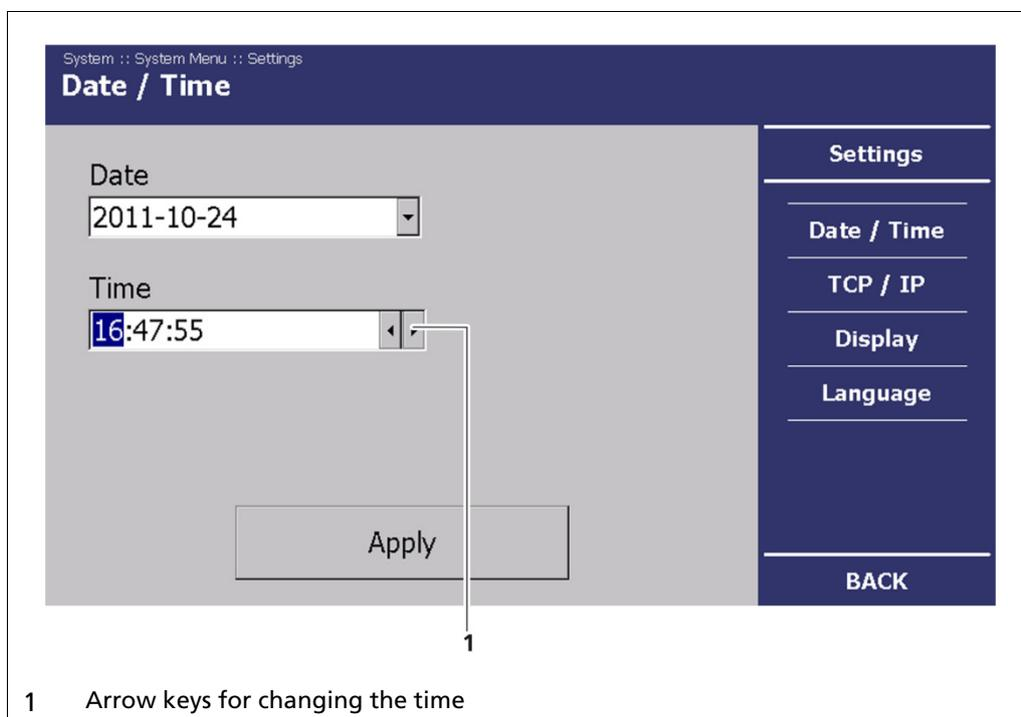

Fig. 26 System menu, Settings - Setting the Time
1. In the "Time" display field, click on (Fig. 26, Item 1) the time unit (hours, minutes, seconds), which you want to change.
2. Change the time by clicking on the arrow keys (Fig. 26, Item 1).